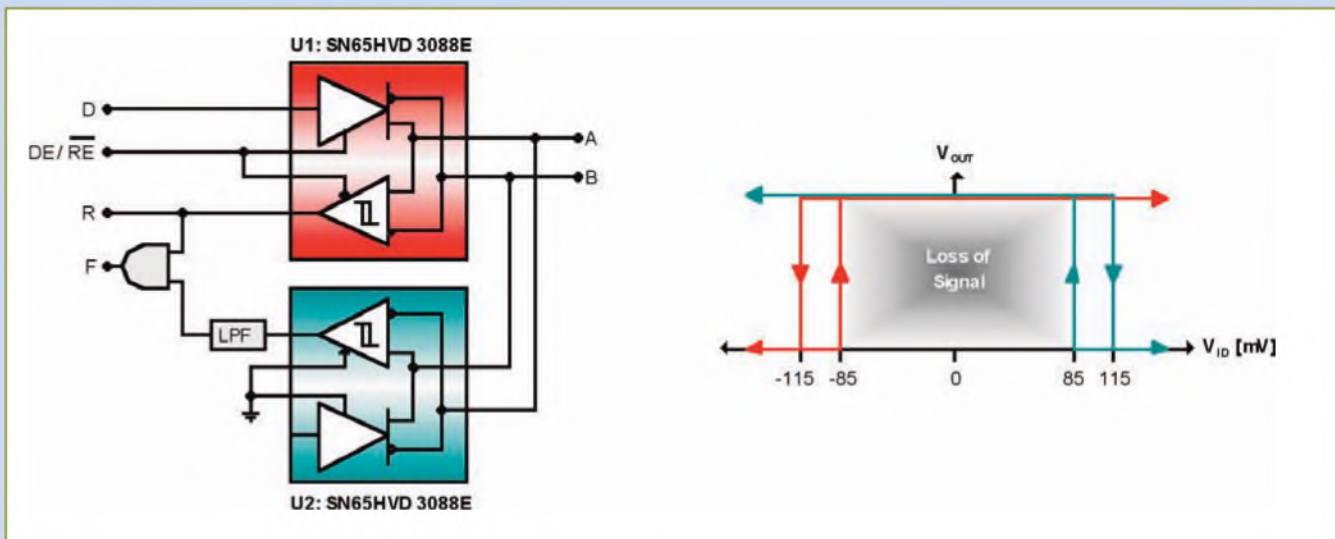

Figure 1: LOS indicator with transfer function
Modern transceivers featuring integrated failsafe biasing have their input threshold voltages offset into the negative voltage range, thus driving the receiver output high when the input signal exceeds an upper negative threshold. See U1 thresholds in **Figure 1**.
Figure 1 shows the LOS indicator circuit with its associated transfer functions on the right. The design requires two transceivers. The first is a primary transceiver taking care of the standard data traffic and indicating signal voltages higher than  $-85\text{mV}$ . The second is a transceiver with reversed input polarity, indicating voltages below  $+85\text{mV}$ . AND-gating both receiver outputs causes output fault (F) to assume logic high for voltages between  $-85\text{mV}$  and  $+85\text{mV}$ . Thus, indicating the loss of an input signal.